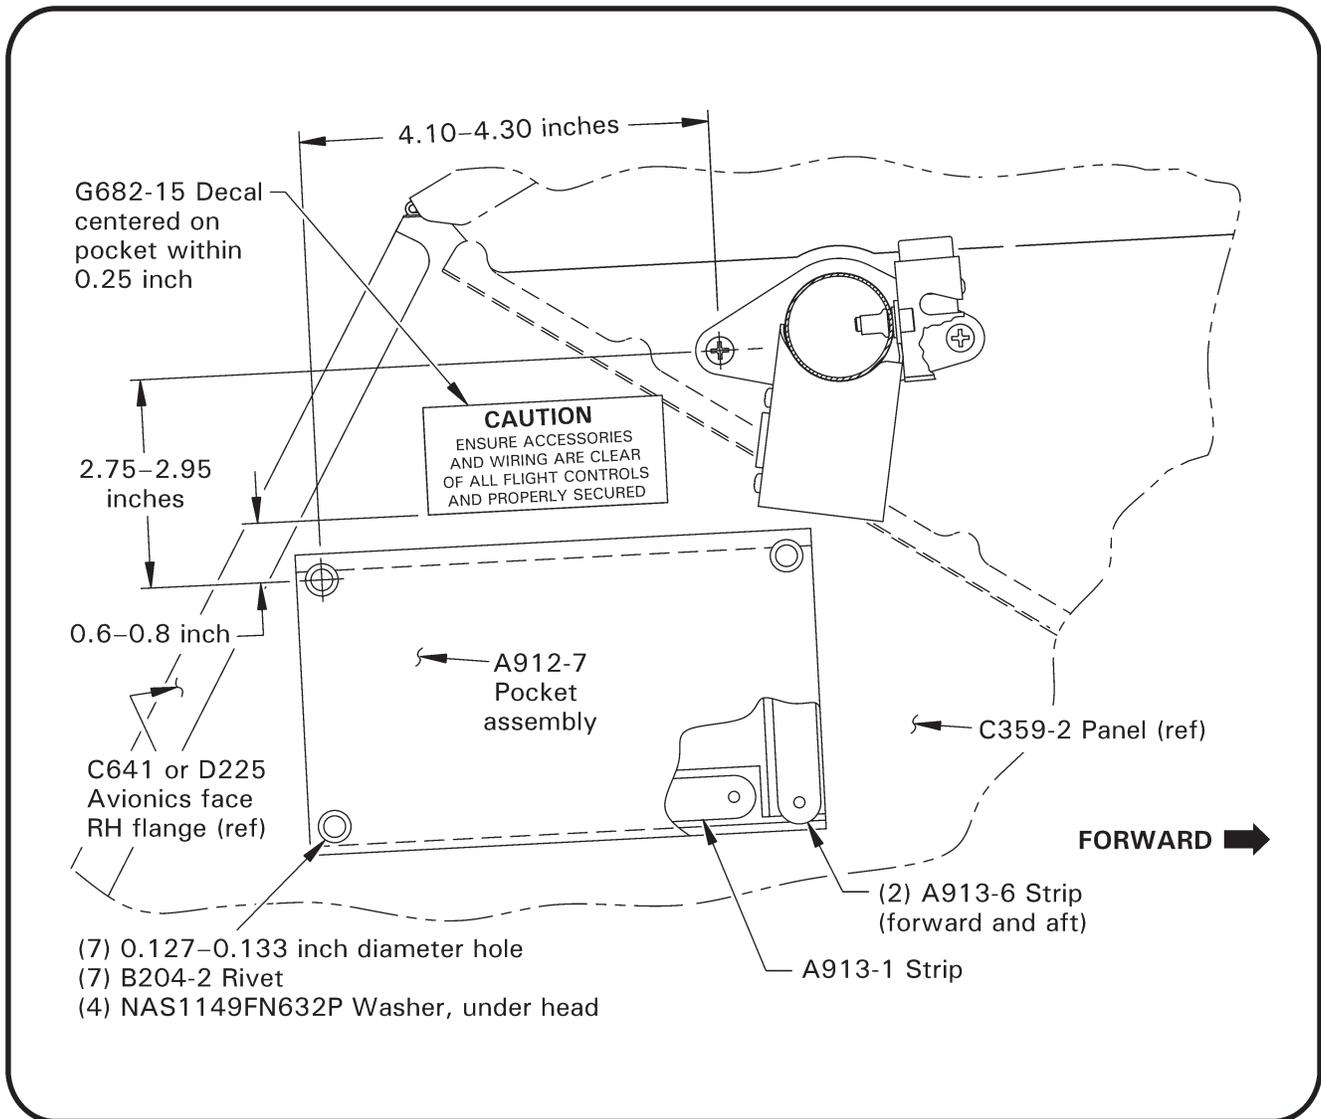

FIGURE 3 RH Pocket assembly installation shown
8. Refer to Figure 3. Lay out upper-aft hole location for A912-7 pocket assembly, ensuring location will not interfere with right hand flange of avionics face. Then, using pocket and A913-1 & A913-6 strips as templates, lay out remaining (6) holes. As required, adjust hole locations within limits so edge or flange of any installed internal stiffener(s) will not be damaged during drilling. With strips as guides and using a drill stop, progressively match drill and install a cleco in (7) 0.128 inch diameter holes.